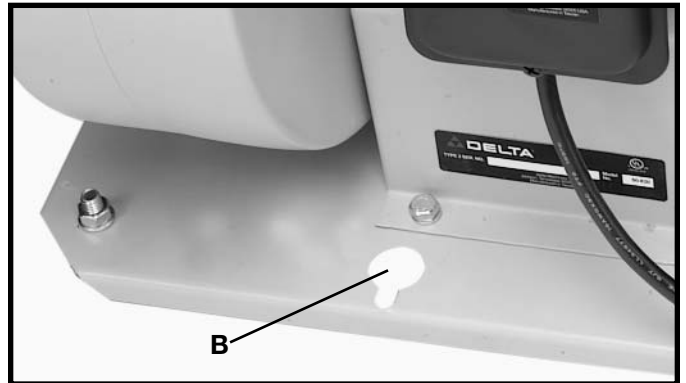

Fig. 30
2. In addition to the carrying handle, the machine features a storage mounting bracket (B) Fig. 30, with a hole for mounting the dust collector to a wall or wooden support (when not in use).